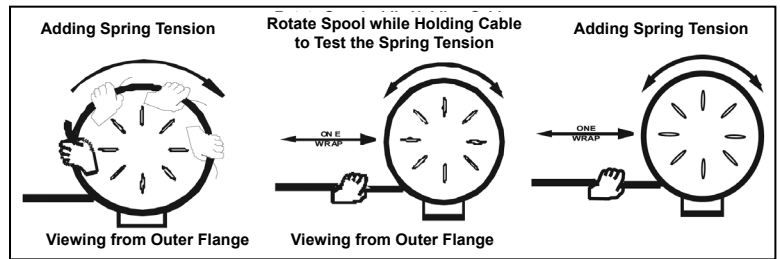

Figure 9
4. With all the cable wound on the reel, grasp the end of the cable and rotate the drum and cable together in a clockwise direction in order to pre-tension the spring. The number of pre-tension turns is determined by cable size and footage. Usually, two to three turns is sufficient, but additional turns may be used if testing indicates that the cable will not fully retract as desired with just two turns. See Figure 9.
6. Repeat steps if necessary to add or decrease tension. See Figure 9.